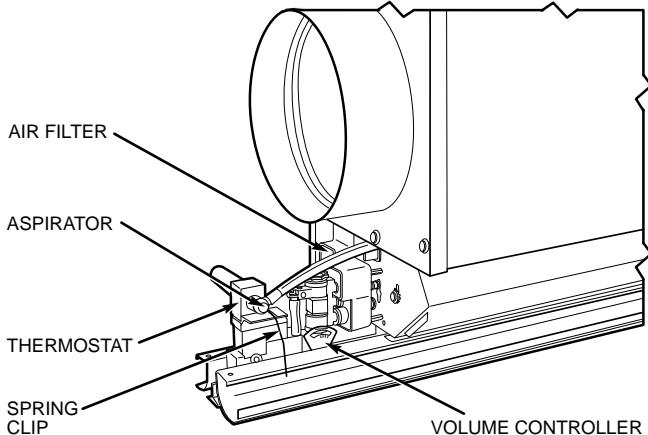

Fig. 30 — 37HS4 VAV Control Installation
12. Install the thermostat on the center diffuser, then snap spring clip over thermostat and onto the side diffusers to hold thermostat in place. See Fig. 30. Make sure that thermostat lever will rotate.
13. Remove cap from the aspirator supply port on the unit control block. Connect the clear, $5\frac{3}{4}$ -in. long aspirator supply tube to the control block connection. Figure 30 shows the completed installation.